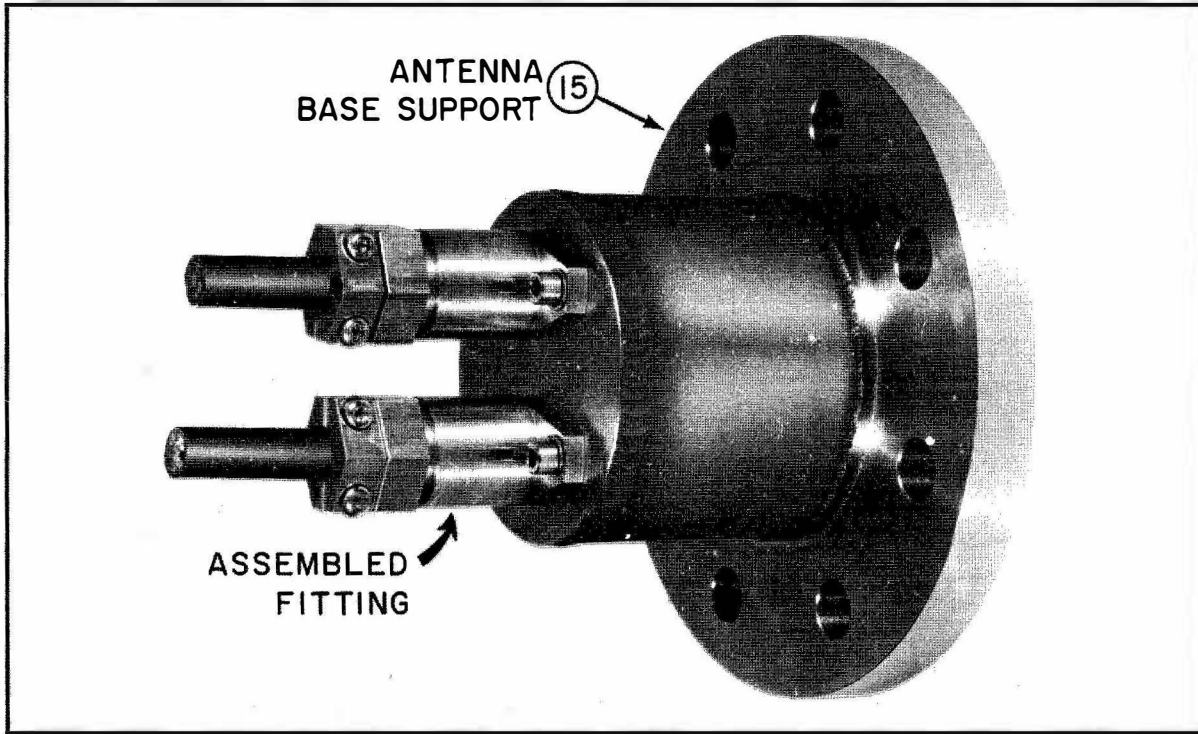

Figure 5-13f. Fitting Installed in Antenna Support Base
Step 6. - Install the assembled pressureproof fitting in the Antenna Support Base AB-234B/B (see figure 5-13f) and secure in place with the two socket head screws, piece 11.